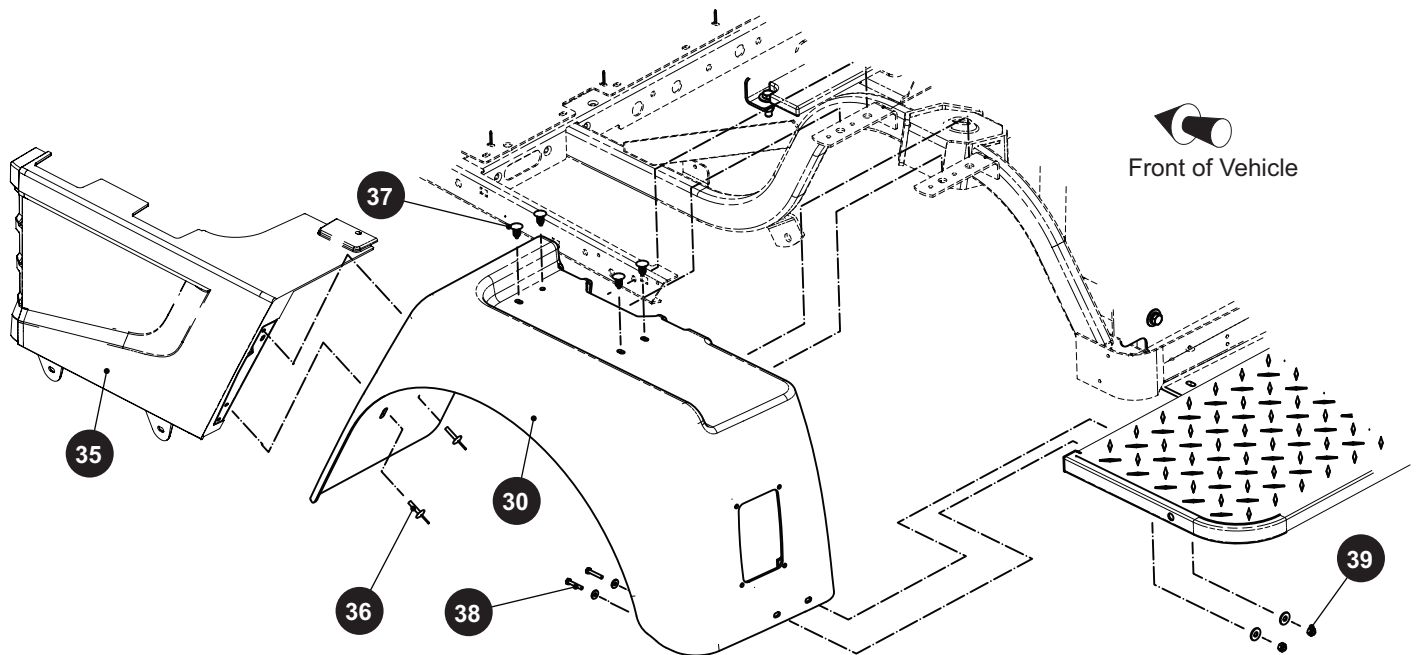

Fig. 10 Fender Replacement
2. Drill out the two rivets (36) securing the side panel (35) to the rear fender (30).
3. Remove the two nuts (39) and bolts (38) securing the rear of the rear fender (30).
4. Pry out the four ratchet rivets (37) securing the rear fender to the frame (Ref. Fig. 10).